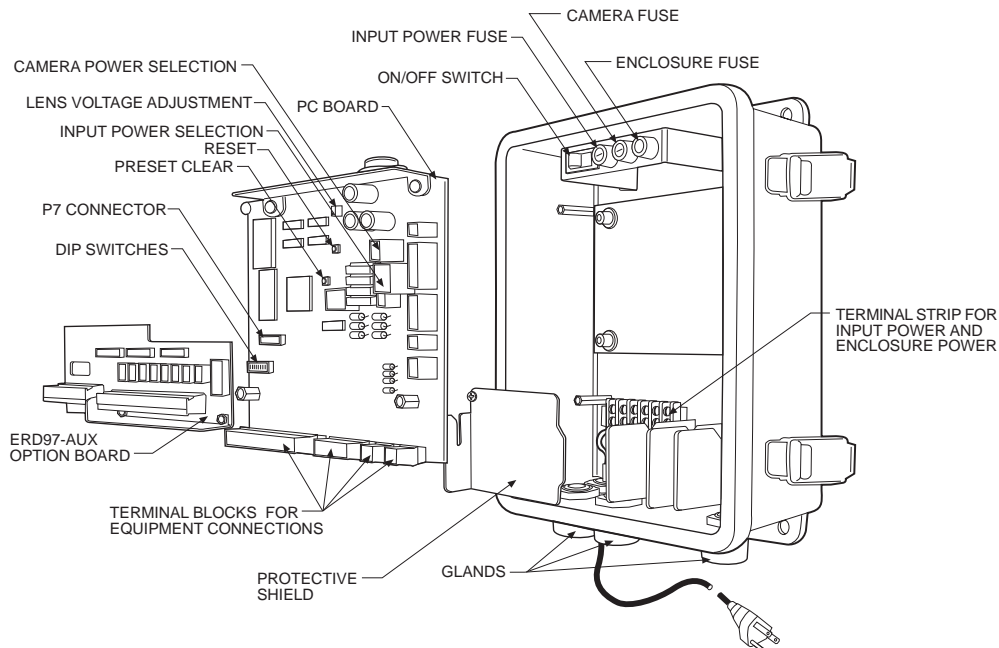

Figure 1. ERD97P21-U with ERD97-AUX Option Board
To change the receiver input power to 230 VAC and/or to connect power to the enclosure, do the following. Refer to Figure 1.
1. Loosen the thumbscrews on the PC board (refer to Figure 1) and move the board out of the way.
1. Locate P7, the 16-pin female connector located on the main board of the receiver. Refer to Figure 1.
The ERD97P21-U Receiver can be configured to operate at 24 VAC, 120 VAC, or 230 VAC. Seven plug-in connectors and nine fuses are included with the ERD97P21-U Receiver. Install the proper voltage cubes and fuses. Refer to Table A and Figure 1.